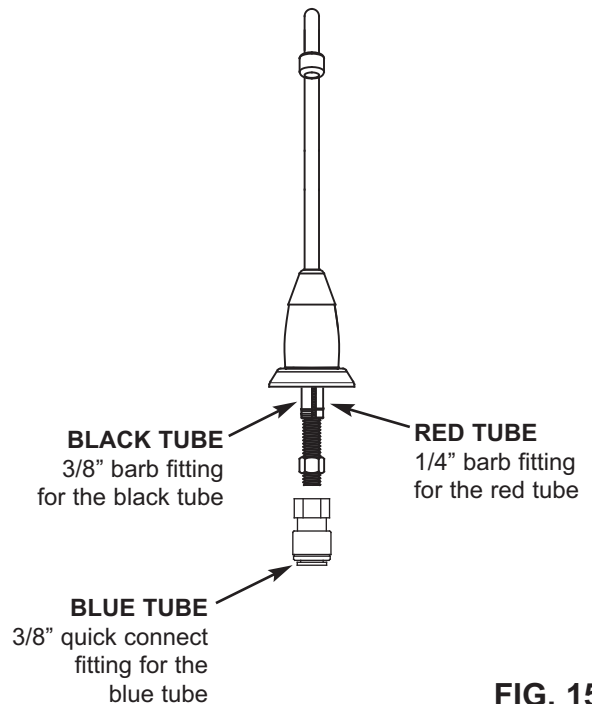

FIG. 15
3. Locate the 3/8" black tubing and push one end onto the 3/8" faucet barb fitting, see Fig. 15.
5. Locate the 1/4" red tube assembled to the RO assembly. Remove shipping cap from the loose end of the red tube. Route the red tubing from the bottom, up through the faucet mounting hole. Cut tube to length as needed, cutting the end square. See Fig. 16. Push the end of the tubing onto the 1/4" barb fitting. See Fig. 15.
9. Locate the 3/8" blue tubing assembled to the RO assembly. Remove shipping cap from the loose end and route the blue tubing to the quick connect fitting on the bottom of the faucet stud. Cut tube to length as needed, cutting the end square. See Fig. 16. Push the end of the blue tubing into the quick connect fitting. See Fig. 15.